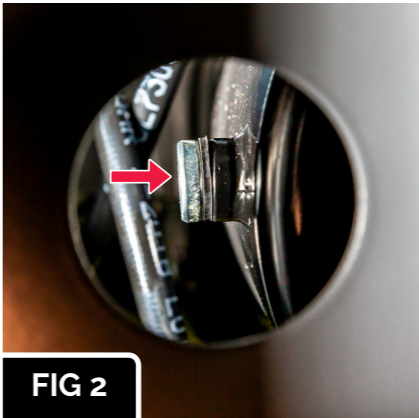

FIG 2
- Remove the bung from the bottom of the tank (fig 2). This can be accessed through a hole in the belly plate with a 6mm allen key. Retighten after drainage to a torque setting of 22nm.